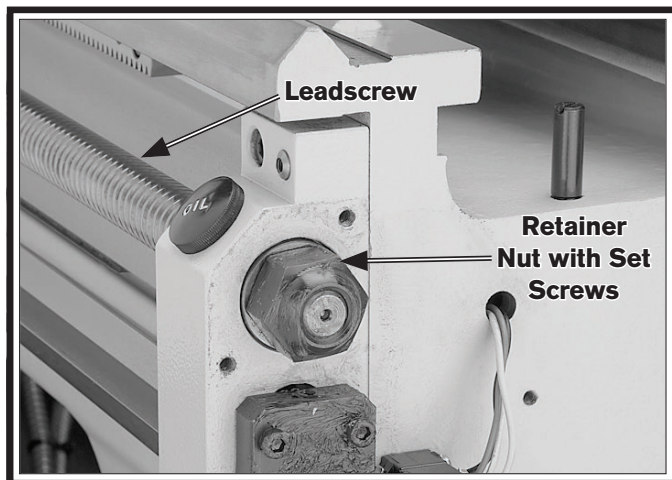

Figure 127. Leadscrew end play adjustment.
3. Loosen both retaining nut set screws shown in **Figure 127**.